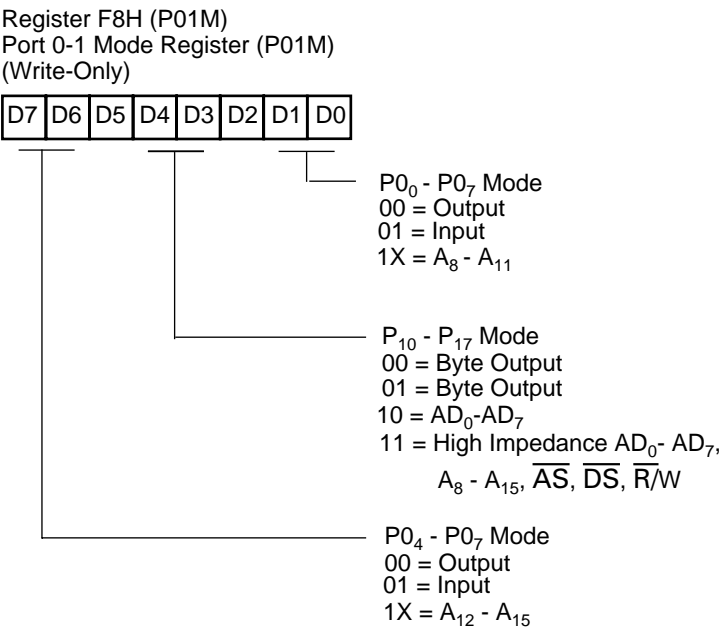

Figure 10-2. External Address Configuration
*High Address Lines* A15 -A8 (Outputs can be CMOS- or TTL- compatible. Please refer to product specifications for actual type). A15-A8 provide the High Address lines for the memory interface. Port 0 - 1 mode register must have bits D7 = 1 and D1 = 1 to configure Port 0 as A15 - A8 (Figure 10-2).
*Address/Data Lines* AD7 - AD0 (inputs/outputs, TTL-compatible). AD7-AD0 is a multiplexed Address/Data memory interface. The lower eight Address lines (A7-A0) are multiplexed with Data lines (D7-D0). Port 0 - 1 mode register must have bits D4 = 1 and D3 = 0 to configure Port 1 as AD7 - AD0 (Figure 10-2).